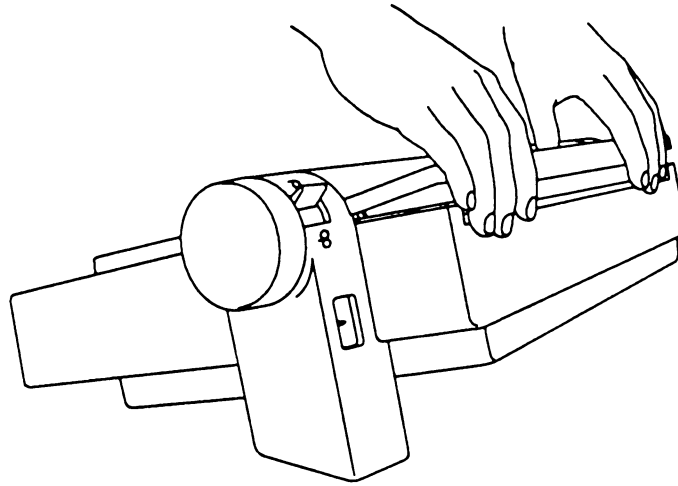

Figure 9. Removing the back cover
2. Lift up and remove the **back cover** to get to the tractor, the device that pulls paper into the printer. Set the cover aside. (See Figure 9.)